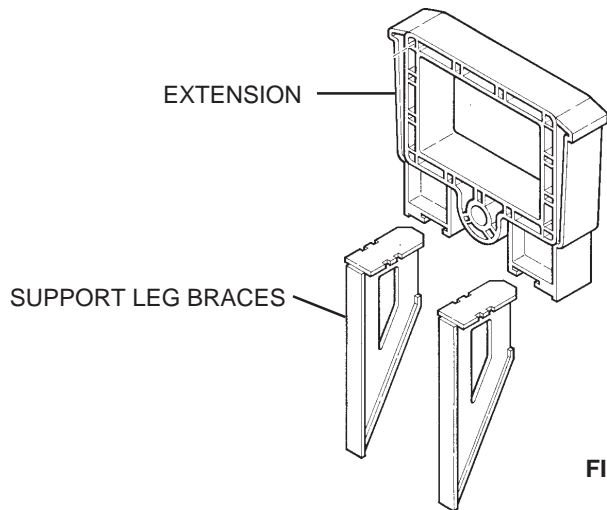

FIG. 1
2. If the skimmer/skim filter you purchased requires support leg braces and already has them installed, carefully pop them out. Slide the braces into the slots provided under the opening of the skimmer extension so that the flat surface of the braces is facing out (these will support the skimmer/skim filter against the pool wall, see Fig. 1). Press firmly on the braces to snap lock them into place.